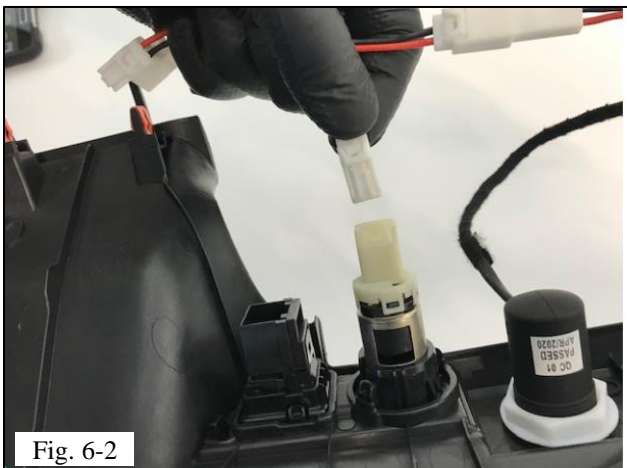

Fig. 6-2
- (b) Connect H-Jumper harness to power outlet (Fig. 6-2).